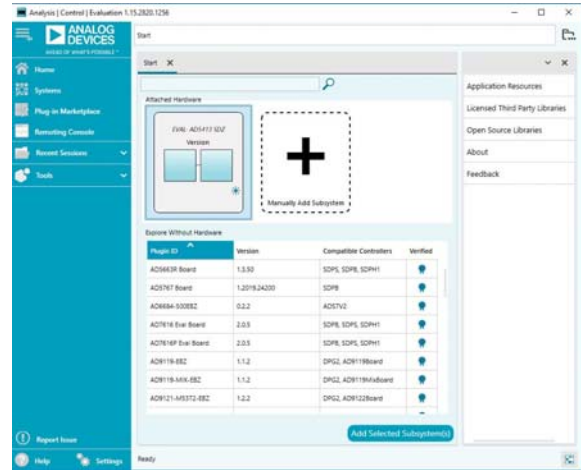
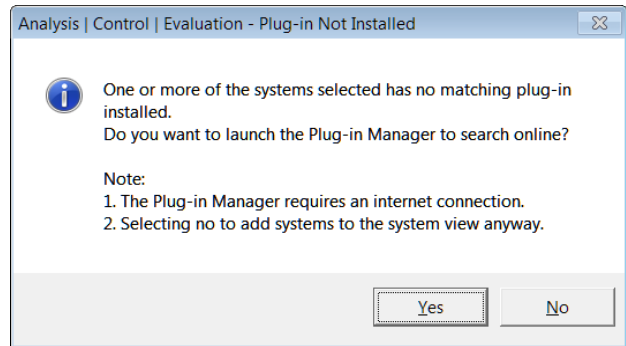
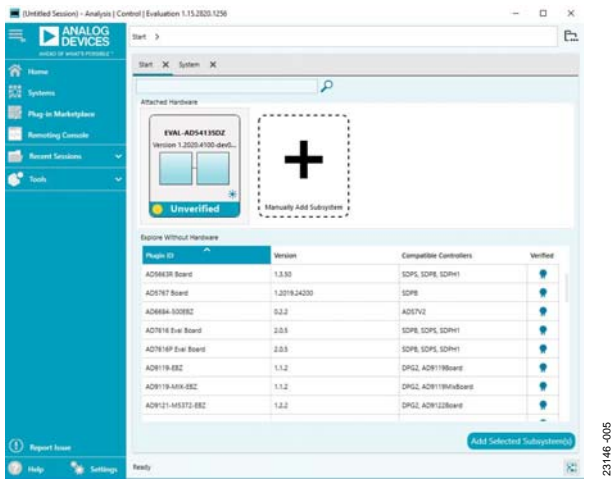
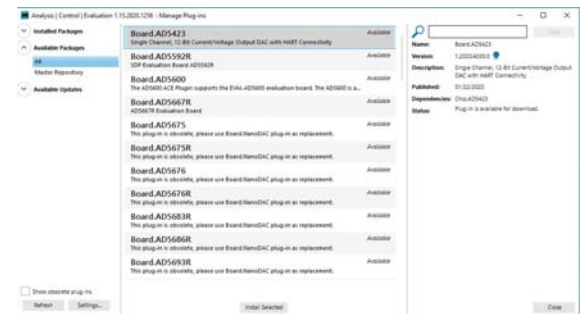

Figure 3. EVAL-AD5413SDZ Plugin Not Installed
Figure 4. Installing the Plugin Pop-Up Window
Figure 2. Attached Hardware Section with the EVAL-AD5413SDZ Plugin Connected
Figure 5. Plugin Manager Window
5. When setting up the EVAL-AD5413SDZ for the first time, you may be required to install the EVAL-AD5413SDZ plugin. If the plugin appears as shown in Figure 2, proceed to Step 7. If the plugin appears as shown in Figure 3, double-click the evaluation board symbol, and the pop-up window shown in Figure 4 appears. Click **Yes**.
6. The plugin manager window appears, as shown in Figure 5.
7. Find and select the **Board.AD5413** plugin and click **Install Selected**. The EVAL-AD5413SDZ plugin is now installed and displays as shown in Figure 2. In Figure 5 only, the **AD5413** is synonymous with the **AD5423**.